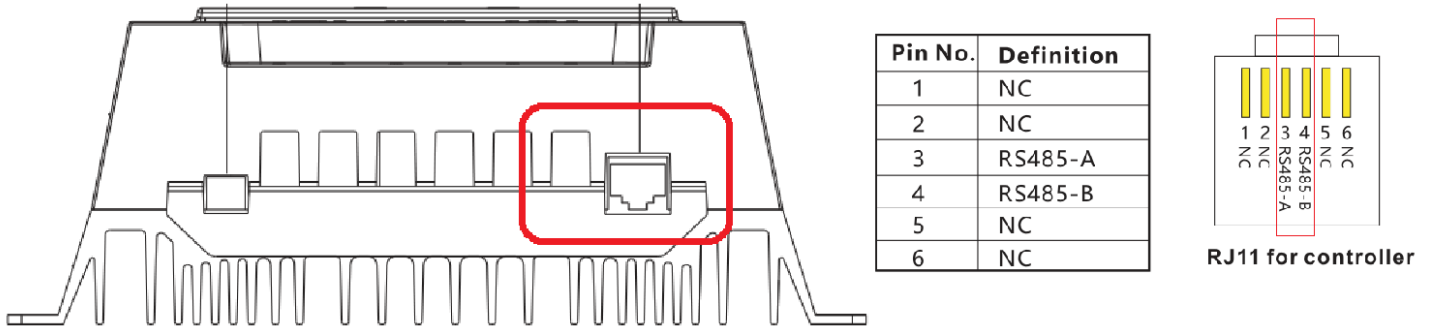

Figure L1 – LUMIAX Charge Controller RS485 Port
2. The charger is equipped with a RS485 port with RJ11 sockets, the RJ11 interface is defined as mentioned in Figure L1
3. The communication terminals is located at the bottom of the section as shown in Figure L1